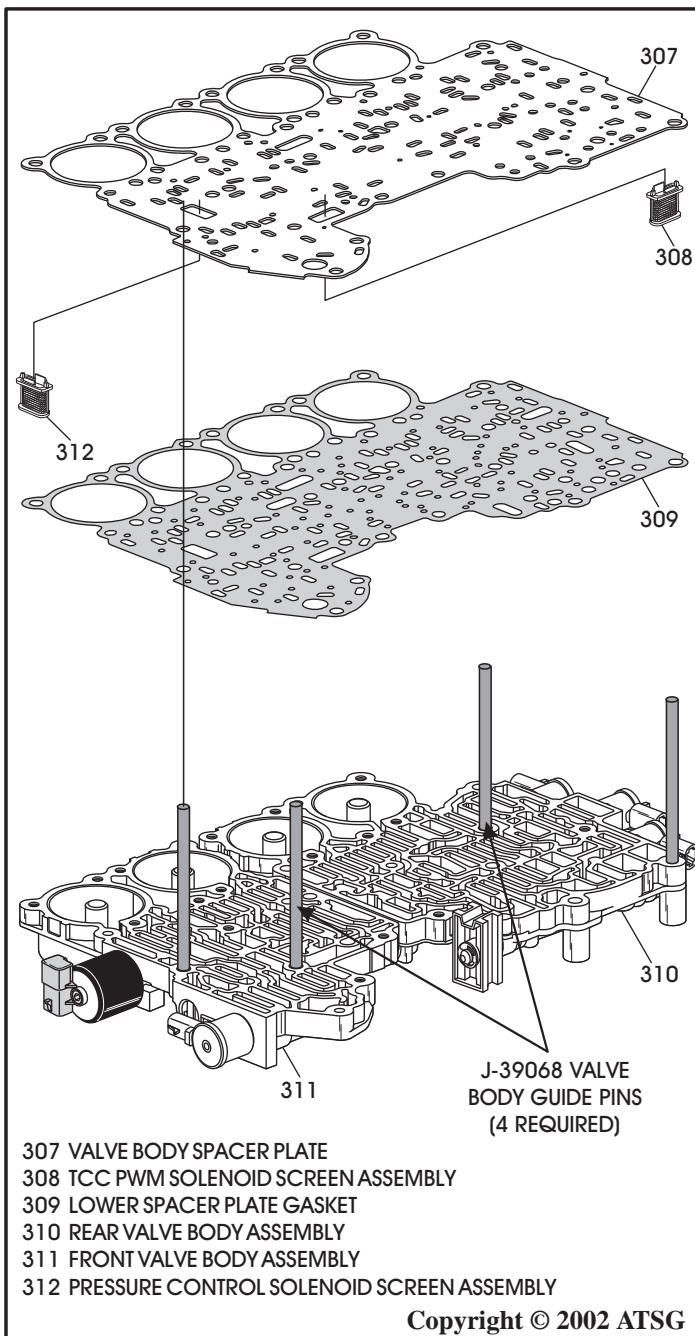

Figure 166
19. Lay both front and rear valve body assemblies on a flat work surface *exactly* as they are laid out in Figure 166.
20. Install the four J-39068 guide pins in locations shown in Figure 166.
21. Install two new screens into the spacer plate in locations shown in Figure 166.
22. Install lower spacer plate gasket over the guide pins as shown in Figure 166.
23. Install spacer plate over guide pins, as shown in Figure 166.